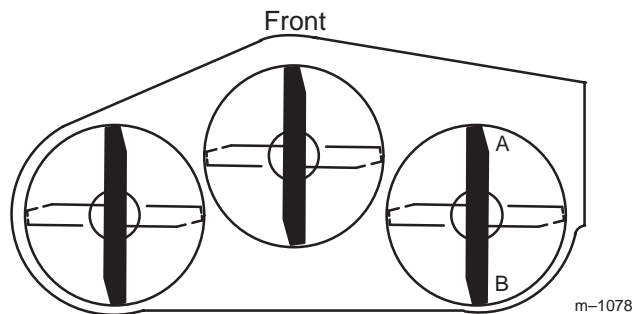
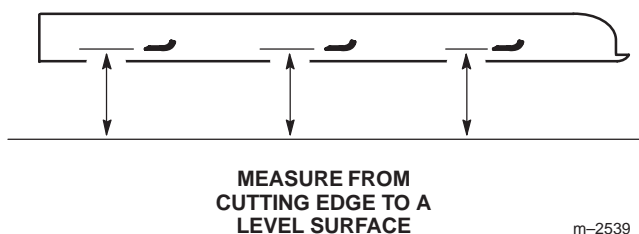

Figure 69
Figure 70
1. Position the **right** blade front-to-rear (Fig. 69).
2. Measure the right blade at the **A** location (Fig. 69), from a level surface to the cutting edge of the blade tip (Fig. 70).
4. Measure the right blade at the **B** location (Fig. 69), from a level surface to the cutting edge of the blade tip (Fig. 70).
6. The mower blade should be a **1/4 to 3/8 inch (6 to 10 mm) lower at position A than at position B** (Fig. 69). If it is not correct, proceed to the following steps.